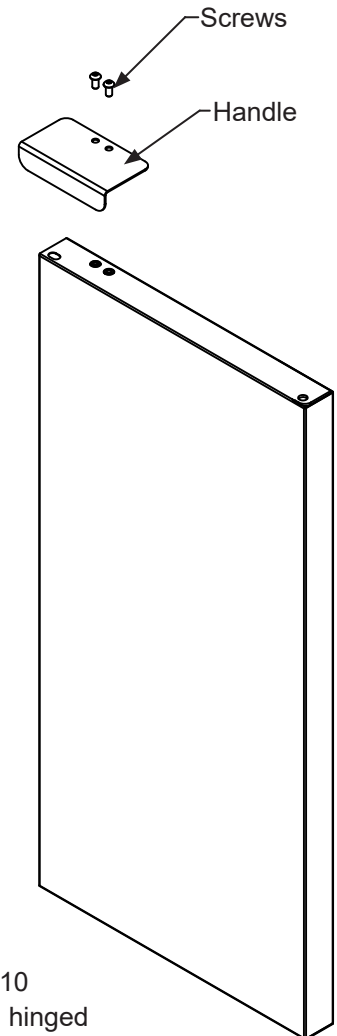

Figure 10
1. Remove the handle, (2) screws, and 5/32" allen wrench from the bag shipped inside the cabinet.
2. Locate handle opposite the hinges and secure in place using the (2) screws and the allen wrench. (See Figure 10).